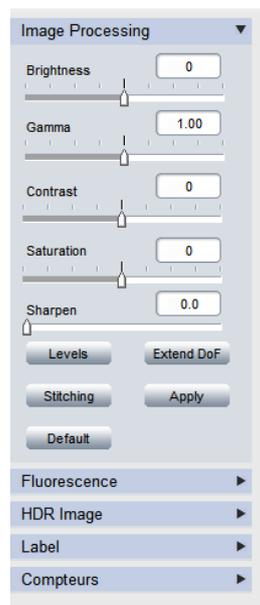

Fig.4-4. Imaging processing
- (1) Click on  tab, get the image processing functions (Fig.4-4).
- (2) Provide Focus stacking, HDR, Fluorescence Combination functions etc.